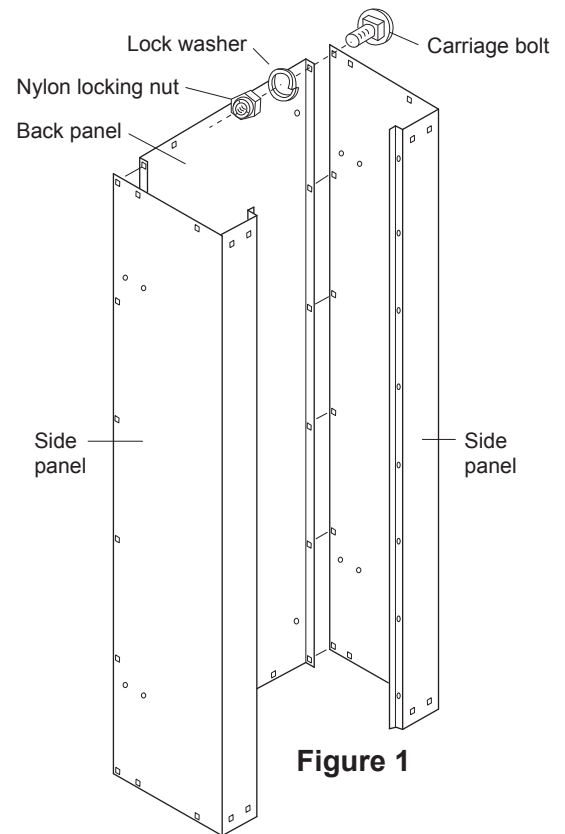

Figure 1
For easy assembly, stand the panels up as shown. Assemble each side with (6) carriage bolts, locking washers and nylon locking nuts. Hand tighten the bolts at this time. (See Figure 1)